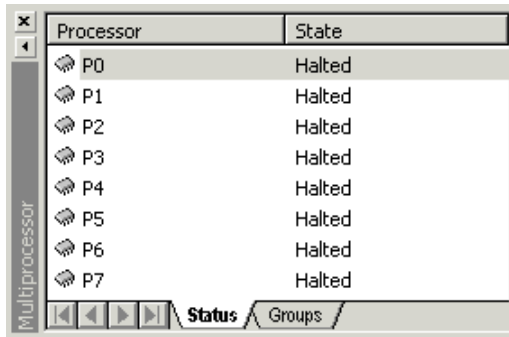

Figure 3-37. Multiprocessor Window: Status Tab Page
The Multiprocessor window appears in the lower-right corner of the VisualDSP++ main window, as shown in Figure 3-37.
You can easily view data from any processor in the current session. Displaying data from a different processor in the same window is called *changing focus*. On the Multiprocessor window's Status tab page (Figure 3-37), the first processor listed, P0, is highlighted and currently *has focus* by default.
1. On the Multiprocessor window's Status tab page (Figure 3-37), click P1.
5. Select different processors from the Multiprocessor window's Status tab page (Figure 3-37) and notice that both Disassembly windows change focus to the currently selected processor. Also note that the `ax0=0x1234;` instruction is present only when the Disassembly windows are focused on P1.
8. On the Multiprocessor window’s Status tab page (Figure 3-37), select processor P1. Notice that the bottom Disassembly window changes focus to processor P1 and that the top Disassembly window stays focused on processor P0.
1. On the Multiprocessor window's Status tab page (Figure 3-37), select P0 to set focus to processor P0.